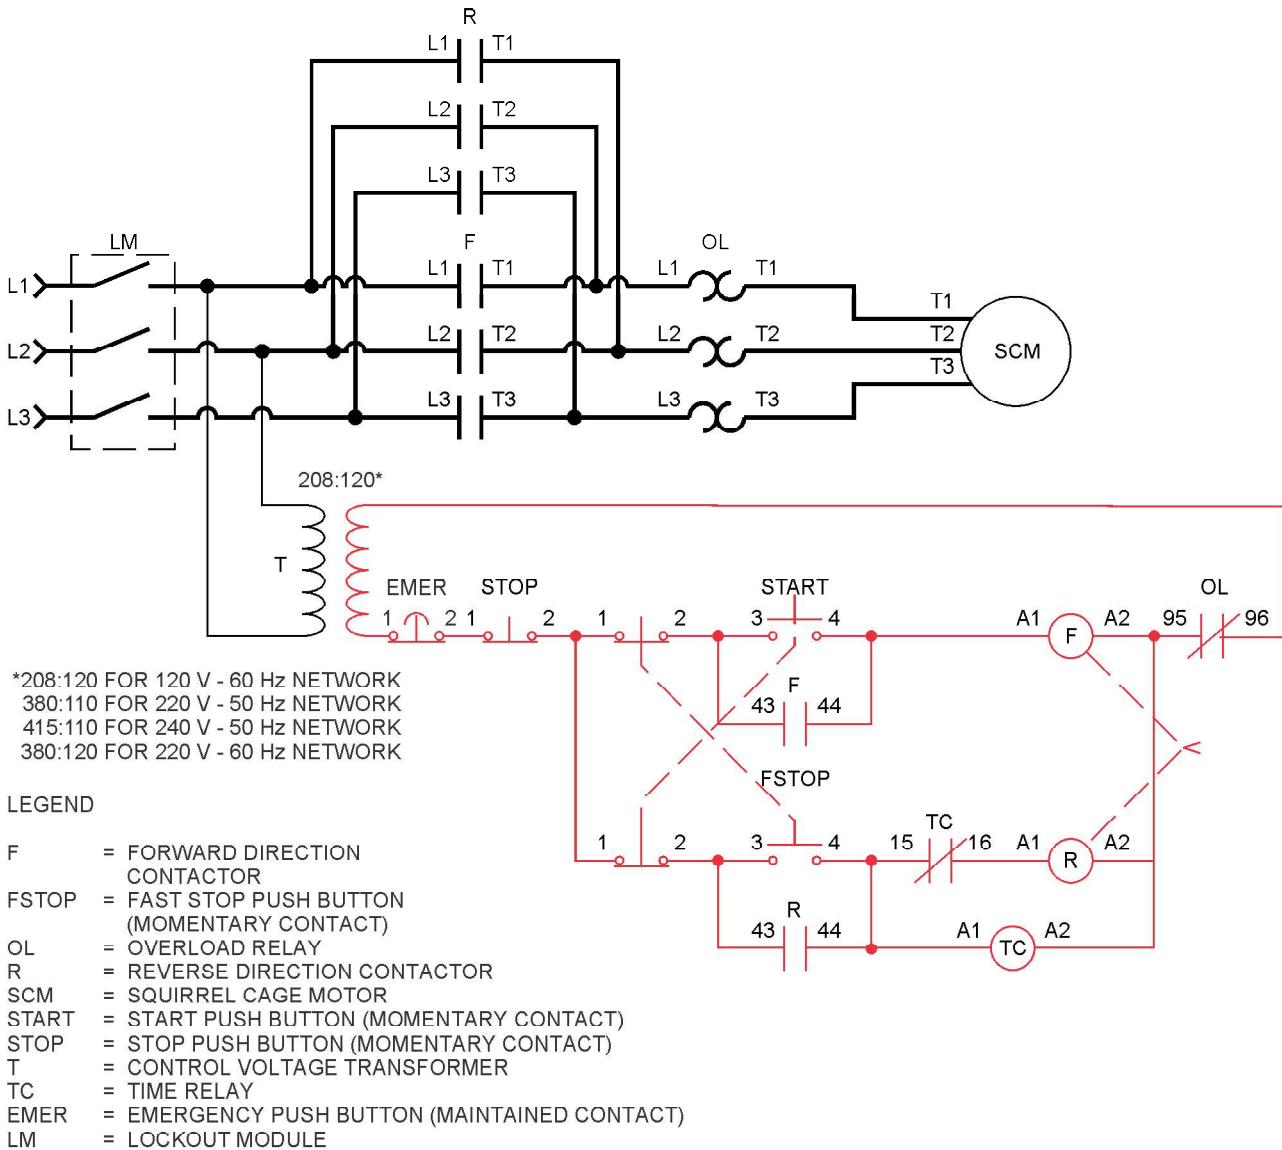

Figure 6-6. Plugging circuit with time relay.
Figure 6-6 is a plugging circuit using a time relay to stop the motor before it rotates backwards. To make the motor turn in the forward direction, the START push button is pressed. The STOP push button makes the motor coast to a stop. The FSTOP (fast stop) push button opens the forward contactor and activates the reverse contactor, making the motor stop rapidly. The On-delay function of the time relay opens the reverse contactor a preset time  $t$  after the forward contactor is de-energized. If it is chosen properly, the motor stops exactly when the reverse contactor is de-energized.
Connect the circuit shown in Figure 6-6.
2. In the Figure 6-6 circuit, what happens if time relay terminals 15 and 16 are short-circuited?
3. In the Figure 6-6 circuit, what happens when the STOP push button is pressed while the motor is running in the forward direction?
4. In the Figure 6-6 circuit, how can you keep the time relay well set, if the load increases significantly?